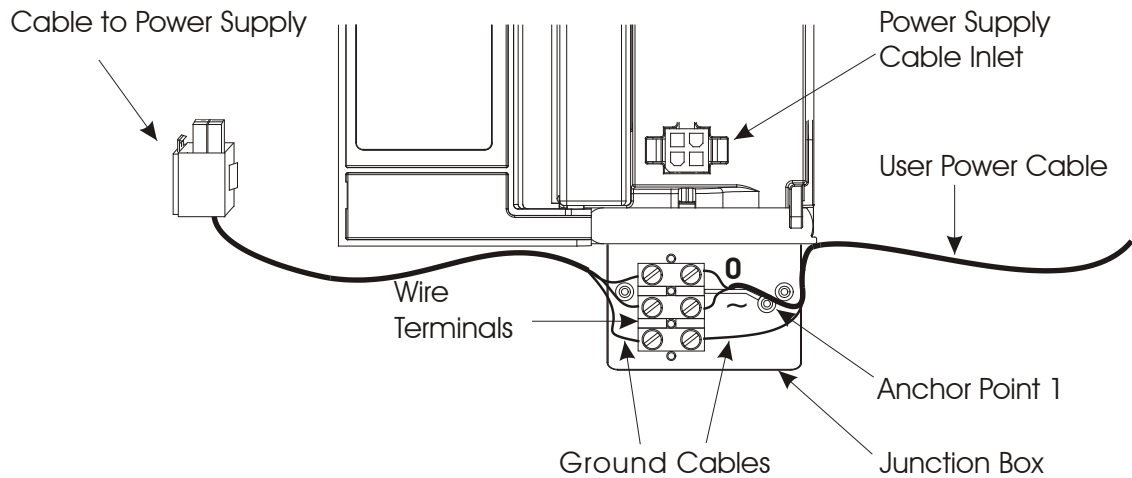

Figure 2-20 RTU Power and Ground Connections - No I/O Frame Installation
- 3) Attach the wires of the user cable, according to the labels (~/0 for AC and +/- for DC.) For the No I/O Frame, connect the ground cable to the lower wire terminals (third pair). See Figure 2-20 and Figure 2-21.
- 5) Attach the wires of the user cable, according to labels (~0 for AC and +/- for DC.) See Figure 2-20 and Figure 2-21. For the No I/O frame, connect the ground cable to the lower wire terminals (third pair).